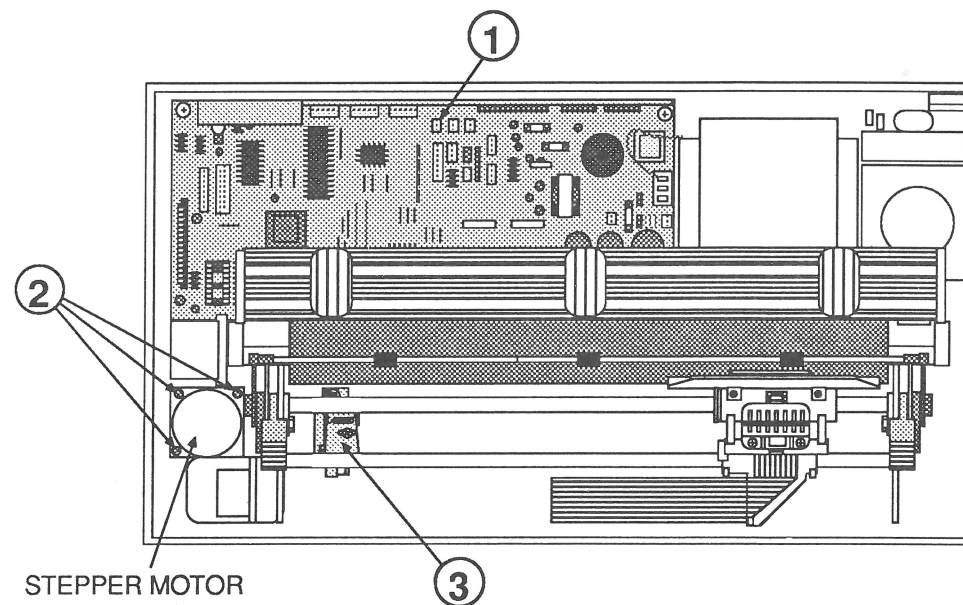
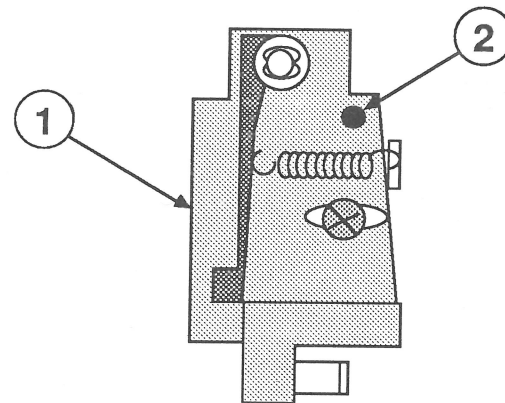

FIGURE 1
FIGURE 3
3. Follow the two wire leads from the home position switch that go around the left side of the stepper motor and lead to connector CN 10 (Figure 1, #1) on the back of the logic board. Unplug the connector at CN10.
1. Remove the three screws (Figure 1, #2) from the stepper motor.
2. Position the sensor assembly (Figure 3, #1) the same way as the old home position switch, making sure the pilot pin (Figure 3, #2) in the assembly goes into the hole above the screw hole (Figure 1, #3). Secure the assembly with the one screw. This is the adjustment screw and will be used to correctly position the switch later.